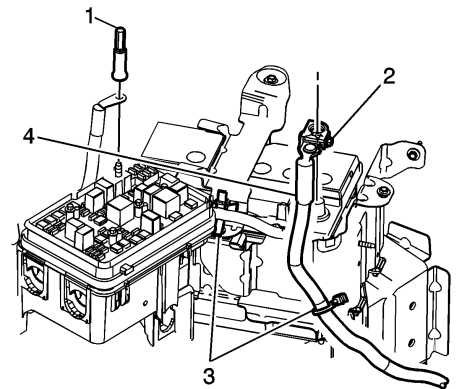

Fig. 3 Battery positive cable disconnection
10. Loosen battery positive cable terminal nut (2), **Fig. 3**.
11. Disconnect battery positive cable (4) from battery, **Fig. 3**.
3. Connect battery positive cable (4) to battery, **Fig. 3**. **Torque** cable terminal nut to 88 inch lbs.